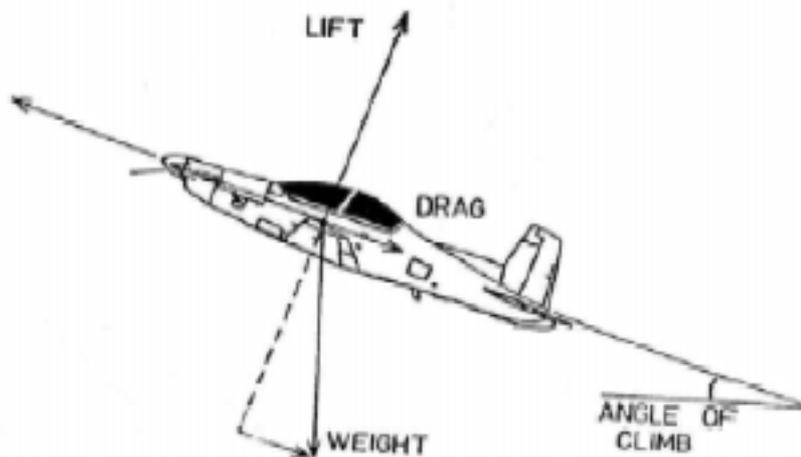

FIG 1.4. - FORCES IN A CLIMB
**1014.** The four forces acting on an aircraft in a steady climb are still in balance, but distributed differently to those when in level flight. Weight now has a component which contributes to drag. Thrust must be increased to compensate for this. In a vertical climb weight and drag combine and the thrust required will be equal to weight plus drag. Since lift is not opposing weight, its vertical component is a reducing value as the angle of climb increases, until in a vertical climb lift would be zero (FIG 1.4.).